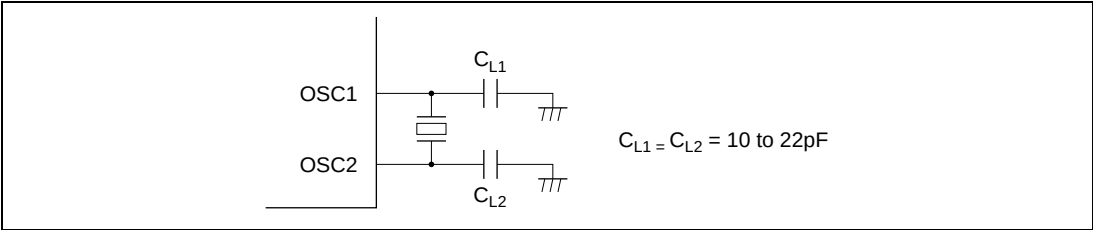

Figure 9.2 Connection of Crystal Resonator (Example)
**Circuit Configuration:** A crystal resonator can be connected as shown in the example in figure 9.2. An AT-cut parallel-resonance crystal should be used.